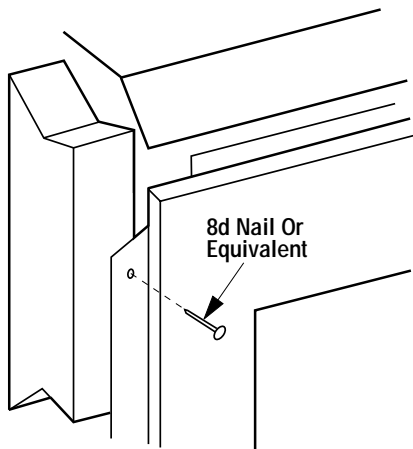

Figure 17
Step 4. Fireplace should be secured to side framing members using the full length nailing tabs at the top and bottom of the fireplace front face. Use 8d nails or equivalent (*Figure 17*).